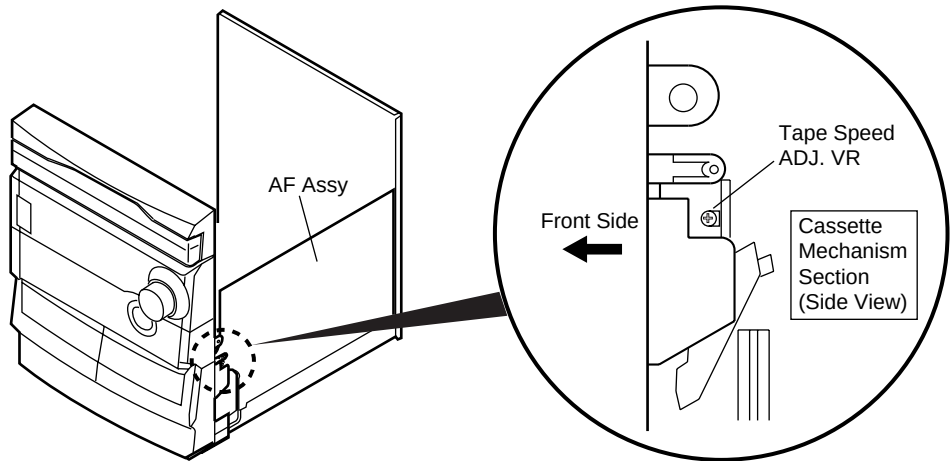

Fig.10 Tape Speed ADJ. Point
• Adjustment points and test points are shown in Fig.10, Fig.12 and Fig.13.